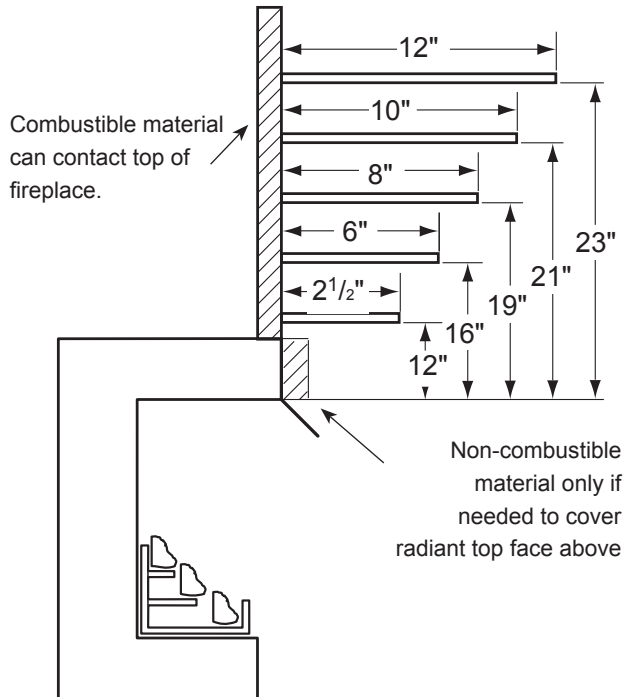
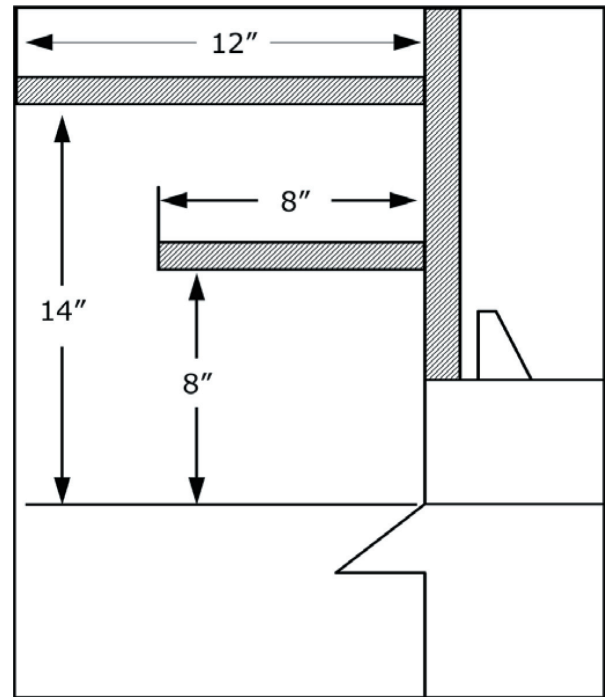

Figure 7A - Mantel Clearances
Figure 7B - Mantel Clearances for Wide Profile Canopy Only
5. **Mantel clearances:** The canopy supplied with the unit must be installed. If a combustible mantel is installed, it must meet the clearance requirements as shown in Figure 7A. However, if lower mantel height is desired, see page 14 and Figure 7B for canopy options.